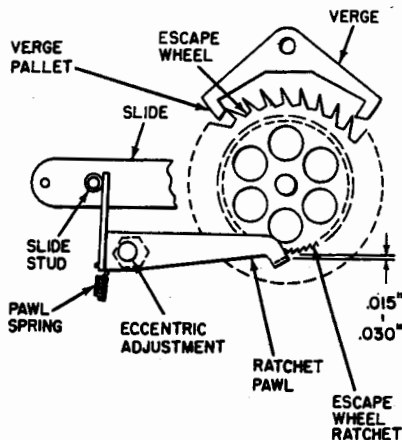

Figure 11 Escape Wheel Ratchet
3. The ratchet pawl spring, (Figure 11) should have enough tension to retain the ratchet in position if the correction cam is moved backwards for fast correction. The spring should also have enough tension to operate the ratchet pawl to the ratchet during the first portion of the correction slide operation. The pawl should stop the ratchet before the slide stud operates the correction cam.